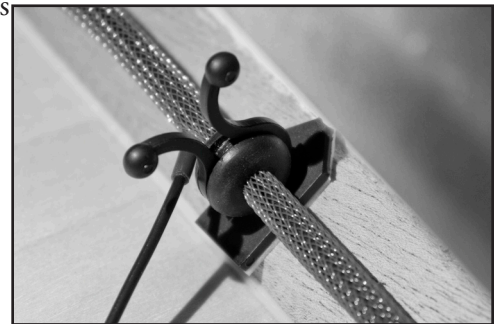

Figure 8 – Grommet snapped into clip
4. Press the lowest rubber grommet into the clip. The groove in the grommet should “snap” into place in the arms of the clip (see figure 8).